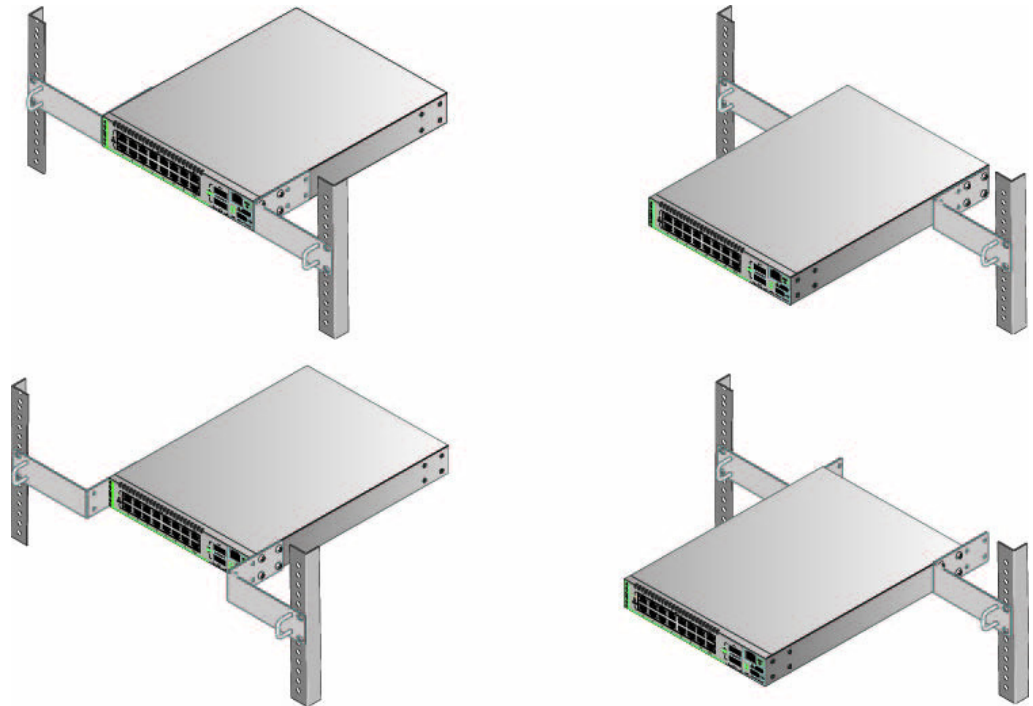
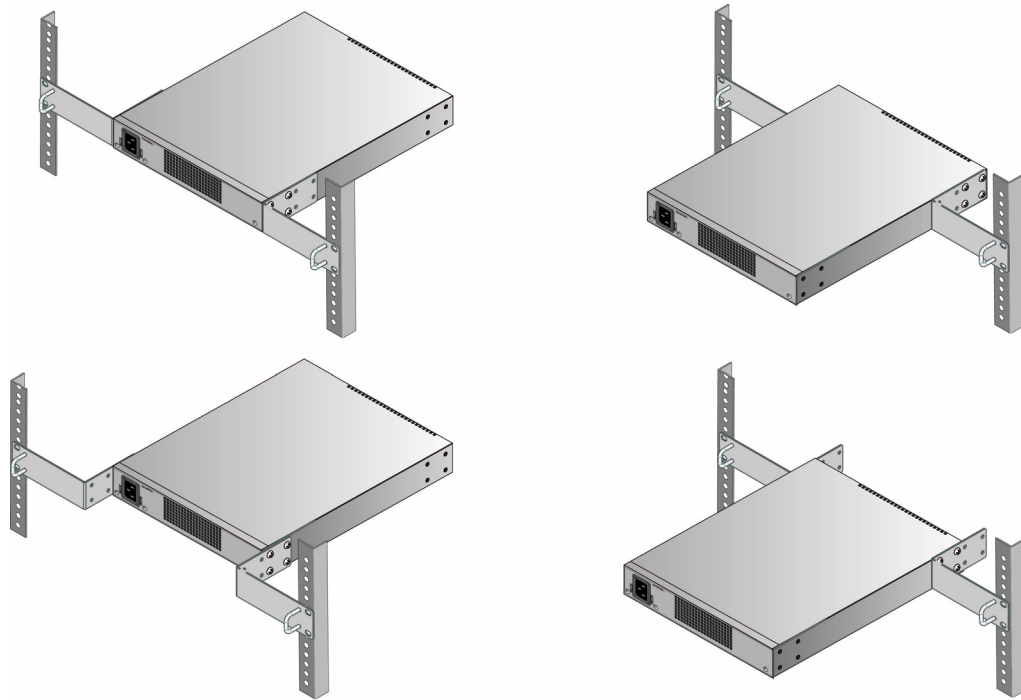
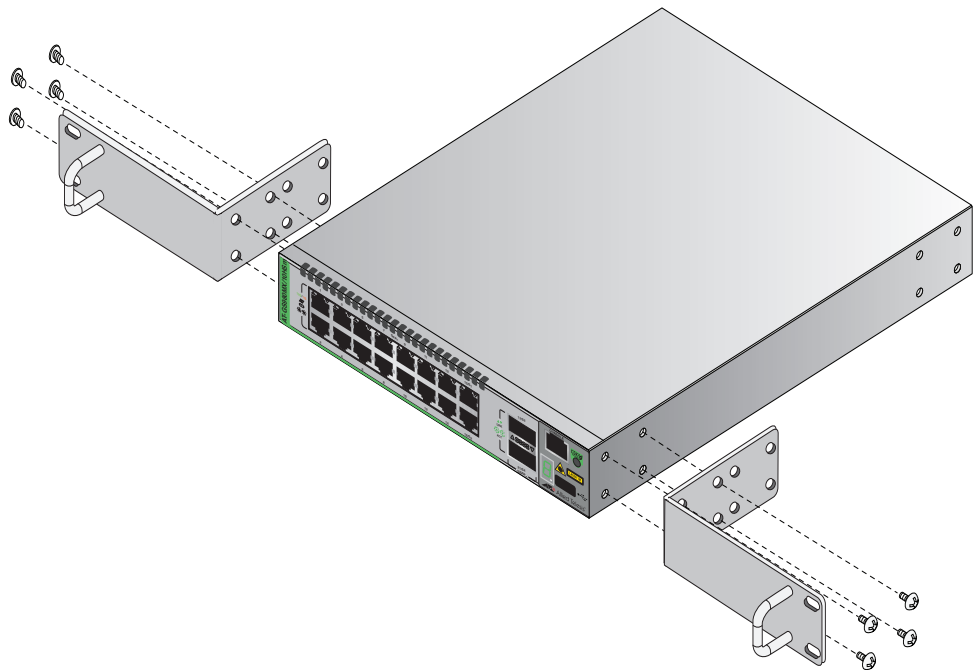

Figure 38. Switch Orientations with the Front Panel Facing the Front of the Equipment Rack
Figure 39. Switch Orientations with the Rear Panel Facing the Front of the Equipment Rack
Figure 41. Attaching the RKMT-J14 Brackets to the Switch
You can use the different sets of holes on the switch and brackets to install the switch in the equipment rack in a variety of orientations. You can install it with the front panel flush with, extending in front of, or recessed behind the front of the equipment rack. The illustrations in Figure 38 show the switch orientations with the front panel facing the front of the equipment rack.
You can also orient the switch with the rear panel facing the front of the equipment rack. Refer to Figure 39.
3. Attach the two brackets to the sides of the switch in the selected position, using the eight M4x6mm screws included with the unit. (Refer to Figure 38 on page 79 and Figure 39 on page 80.) The illustration in Figure 41 shows the installation of the brackets such that the front panel of the switch is even with the front of the equipment rack.